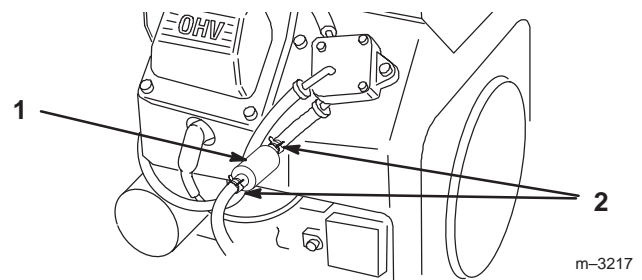

Figure 29
- Squeeze the ends of the hose clamps together and slide them away from the filter (Fig. 29).